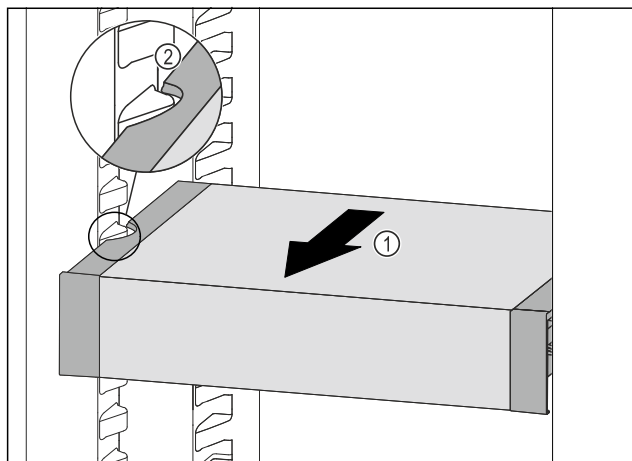

Fig. 109
- Pull VarioSafe forwards Fig. 109 (1) until the recesses in the side of the VarioSafe are at the level of the support rib in the fridge section. Fig. 109 (2)